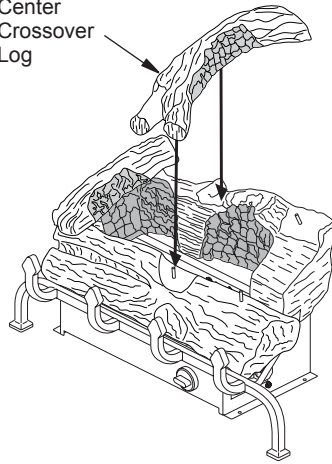

Figure 20 - Installing Center Crossover Log
5. Place the center crossover log as shown in Figure 20. The bottom of the log is marked with a "C" for center. Match square peg on center of rear log with square hole in bottom of center crossover. Match round peg on center of front log with round hole in bottom of center crossover log.